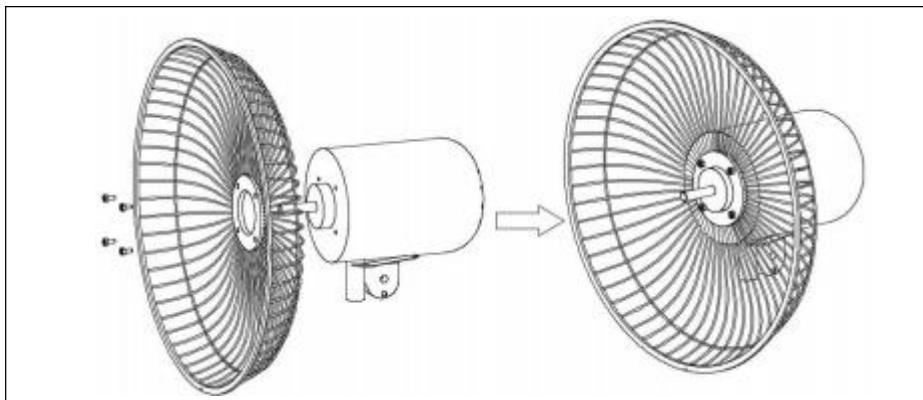

Fig.5.
- 1). Remove the grille screws from the motor head. Then, fix the rear grille(13) on the motor head with the rear grille screw (15) as shown in the diagram (Fig.5.)